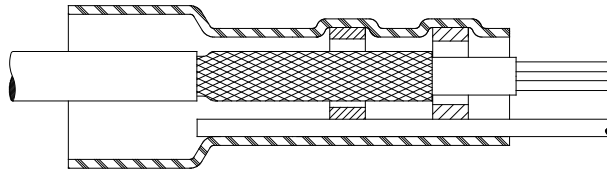

FIGURE 2
- Slide sleeve over end of cable until meltable ring is over the end of shield, per Figure 2.